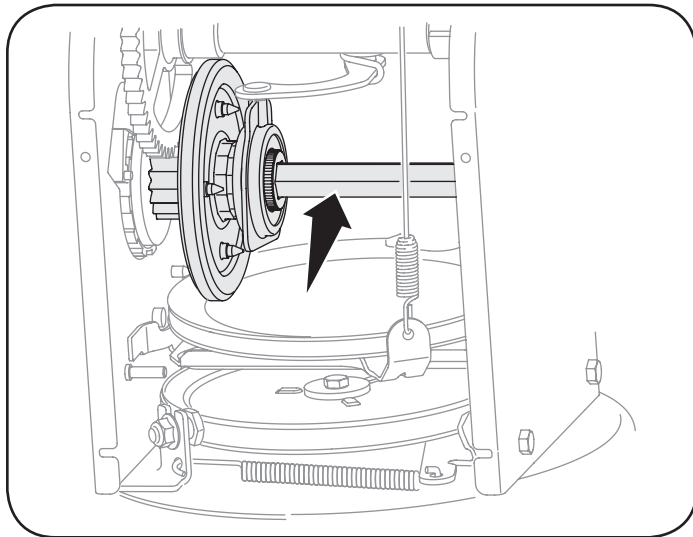

Figure 24
4. Apply a light coating of Bostik Regular grade Never-Seez® to the hex shaft. See Figure 24.